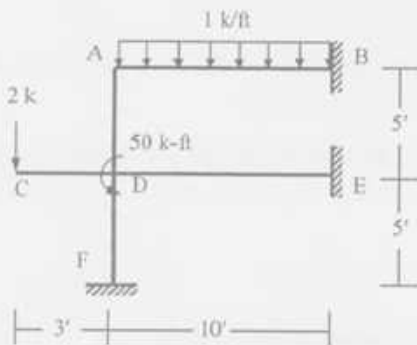

Fig. 3
3. For the frame shown below in *Fig. 3*, calculate unknown rotations at joint A and D considering boundary conditions and neglecting axial deformation [Given, $E = 500 \times 10^3 \text{ ksf}$, $A = 1 \text{ ft}^2$, $I = 0.10 \text{ ft}^4$].